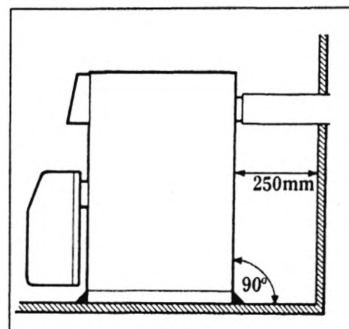

Figure 1
- Keep a minimum distance of 250mm behind the boiler for the flue-gas outlet (see figure 1)